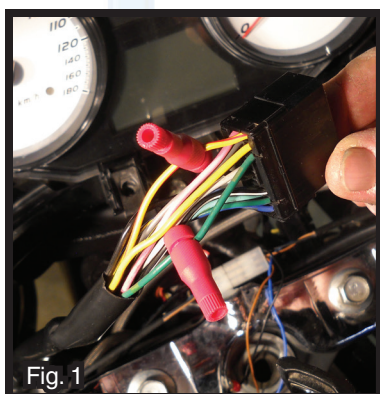

Fig. 1
- Disconnect the handle bar switch connector as seen below in Fig. 1.
- Using the wiring diagram on pg. 5 as a guide, use an included Posi-tap to connect the thin red wire from the wiring harness to the red/yellow wire on the handle bar switch connector. (Fig. 1)
- Connect the thin white wire from the volume control knob to the green wire on the same connector using a Posi-tap. (Fig. 1)